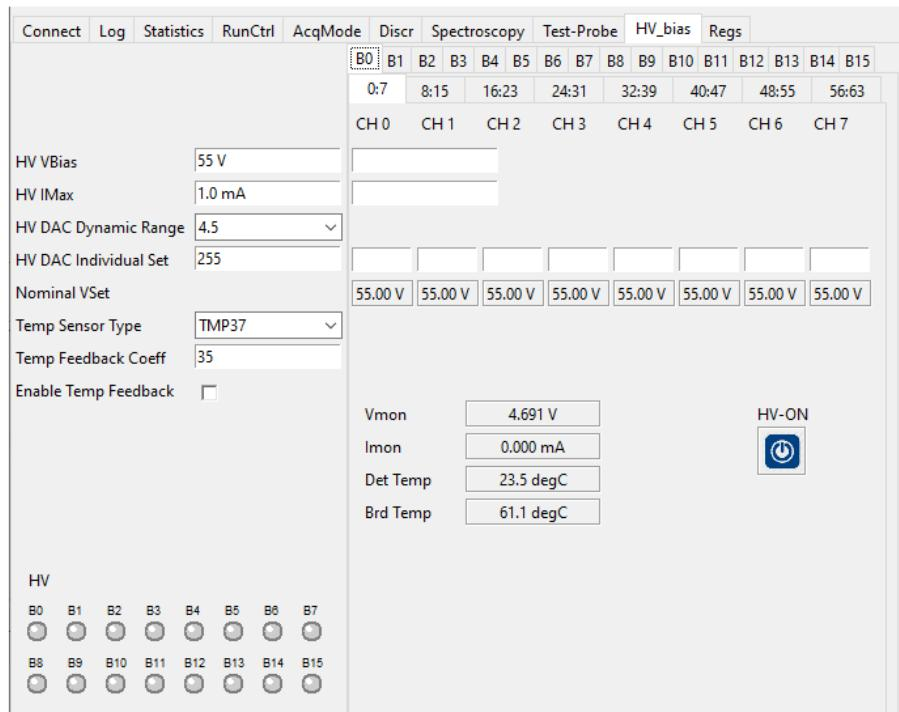

Fig. 10.35: The HV_bias tab of the Janus software.
- Once the connection between the board and the software is established (see Sec. 10.3), the user has to select the "HV_bias" tab of the Janus software. A graphic interface similar to that in Fig. 10.35 will be opened.